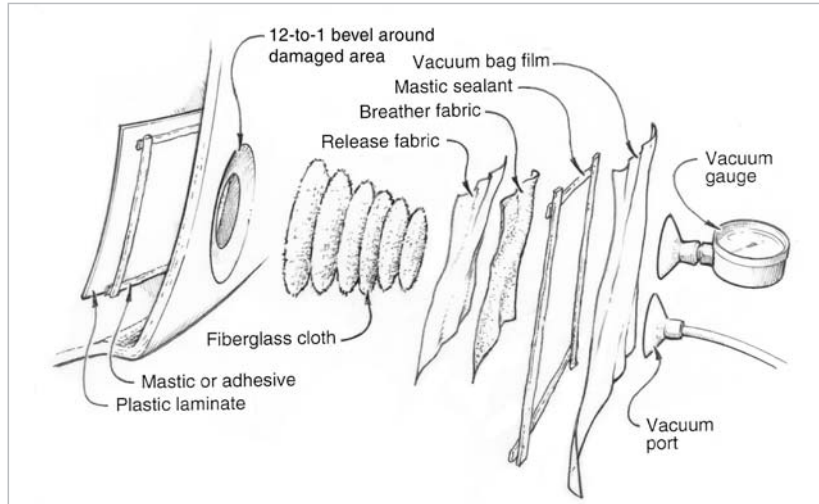

Figure 4-9 Smooth the patch and the release fabric in place. Lay the vacuum bag material over the patch, seal the bag and attach vacuum lines.
4. After smoothing the patch and release fabric in place, lay the vacuum bag material over the patch (*Figure 4-9*). Remove the protective paper from the vacuum bag sealant and press the bag into the sealant around the perimeter. The lay-up must be airtight. Seal off scored or porous core material or delaminated skin and core with epoxy.